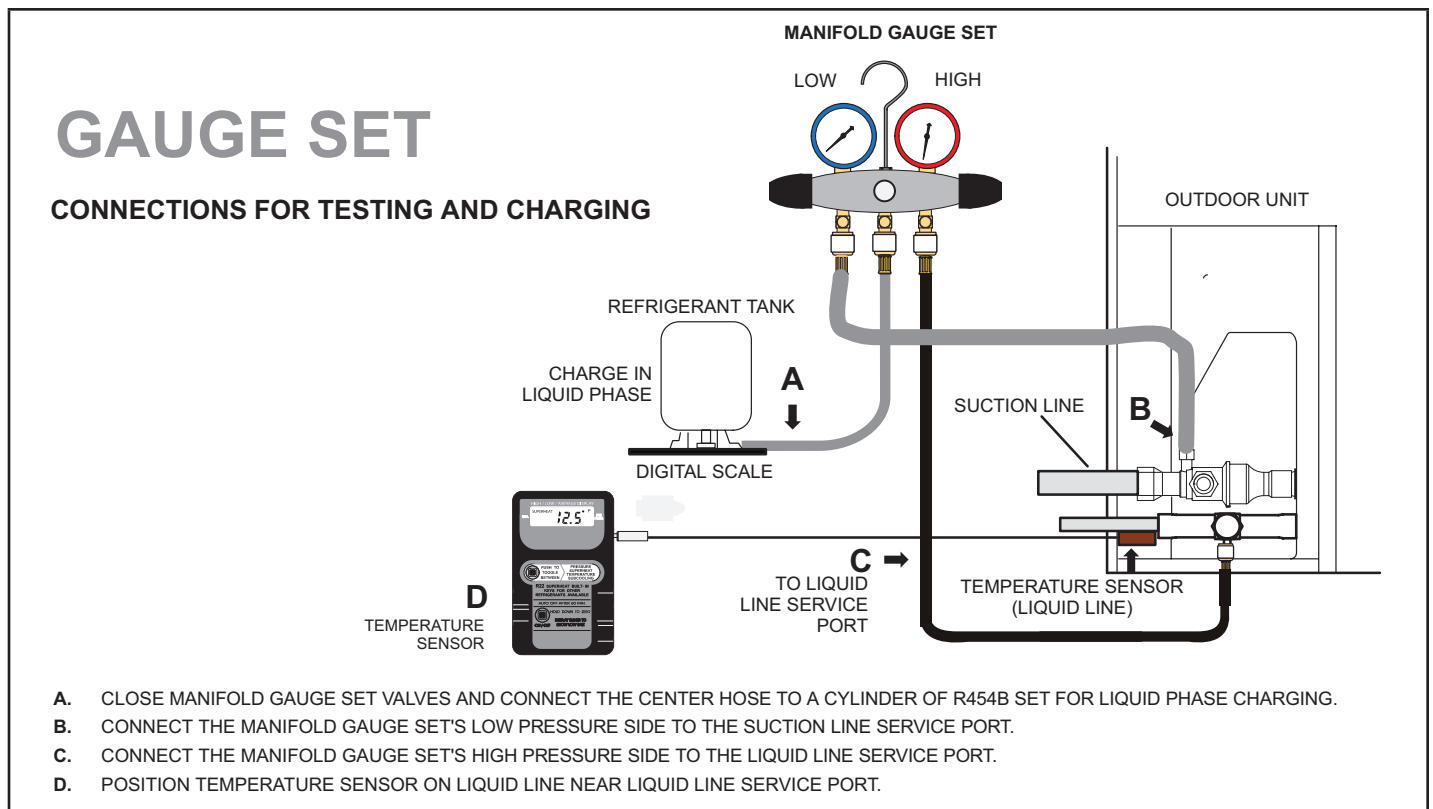

FIGURE 44. Gauge Set Connections
- 1 - Connect a gauge set for testing and charging as illustrated in figure 44.